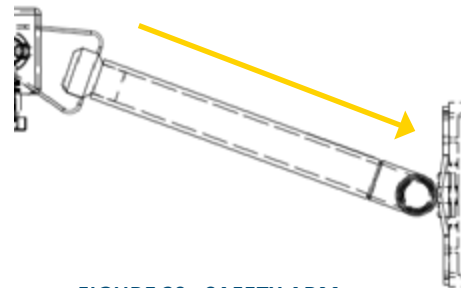

FIGURE 20. SAFETY ARM SYSTEM IN LOWER POSITION (LOCKED)
1. Place the Standard Surface Base on top of the arm's surface plate and use the hardware provided to secure the base to the plate. (Refer to "Figure 20. Patient Right Safety Arm System Installation of the Standard Surface Base on Upper Plate" on page 40 .
2. The round headed hexagon nuts (2) should be placed on the same side of the arm to cover the longer of the 4 bolts.
3. Use the (2) longer bolts to secure the back of the Standard Surface Base on the opposite side of the red quick release button.